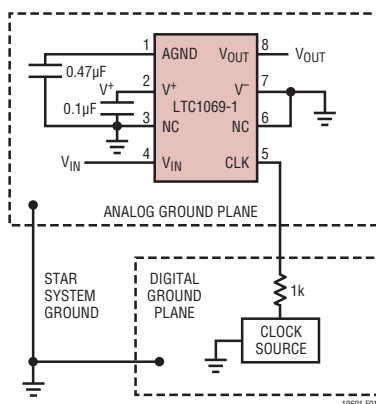

Figure 1. Connections for Single Supply Operation
For single supply operation Pin 1 should be bypassed to the analog ground plane with a 0.47 μ F or larger capacitor. An internal resistive divider biases Pin 1 to 1/2 the total power supply. Pin 1 should be buffered if used to bias other ICs. Figure 1 shows the connections for single supply operation.
CLK (Pin 5): Clock Input Pin. Any TTL or CMOS clock source with a square wave output and 50% duty cycle ($\pm 10\%$) is an adequate clock source for the device. The power supply for the clock source should not necessarily be the filter's power supply. The analog ground of the filter should be connected to clock's ground at a single point only. Table 1 shows the clock's low and high level threshold value for a dual or a single supply operation. A pulse generator can be used as a clock source provided the high level ON time is greater than 0.42 μ s ($V_S = \pm 5V$). Sine waves less than 100kHz are not recommended for clock signal because excessive slow clock rise or fall times generate internal clock jitter. The maximum clock rise or fall is 1 μ s. The clock signal should be routed from the right side of the IC package to avoid coupling into any input or output analog signal path. A 1k resistor between the clock source and the clock input pin (5) will slow down the rise and fall times of the clock to further reduce charge coupling, Figure 1.